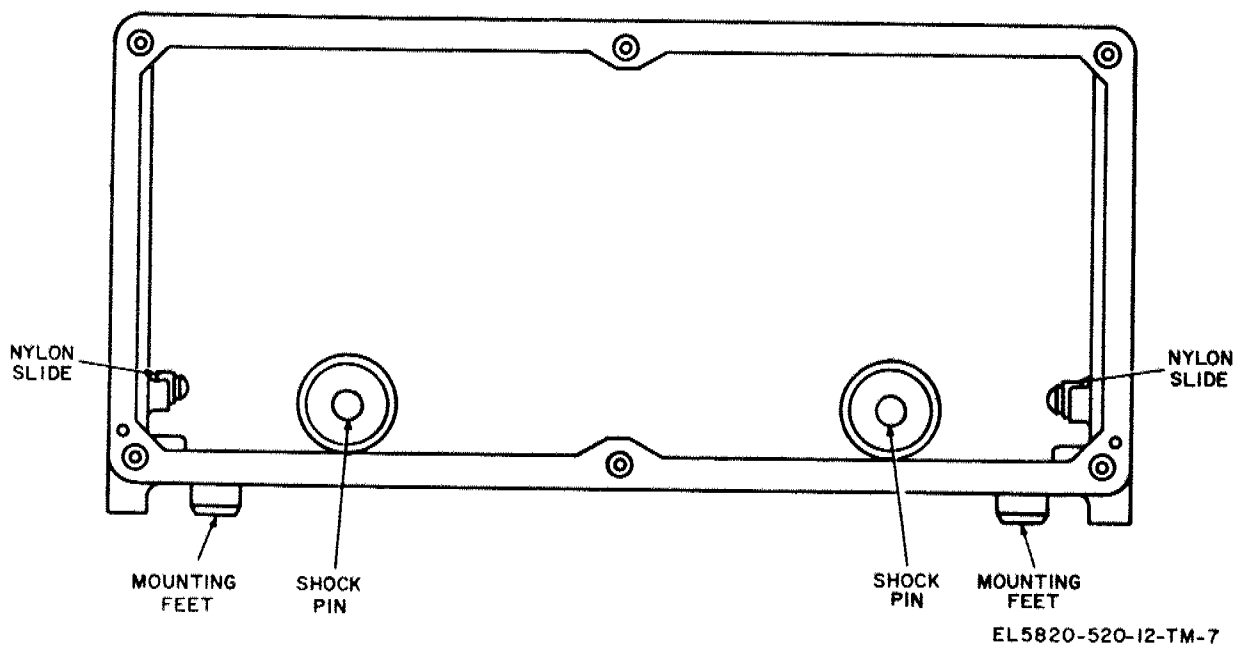

Figure 1-6. Receiver-Transmitter, Radio RT-662/GRC, case, front view.
b. Spring-loaded handles, one on each side of the case, are provided to facilitate hand-carrying. The top surface of the case is indented in four places to provide a secure seating for the matching feet of the AM-3349/GRC-106 when the RT-662/GRC and AM-3349/GRC-106 are stack-mounted. Nylon slides (fig. 1-6), one on each side, are secured to the inside of the case sidewalls, facilitating chassis withdrawal for inspection, adjustment, and maintenance. Stack-mounting supports are on the outside of the case sidewalls, providing the necessary rigidity for stack mounting. The stack-mounting supports are notched to provide an attachment point for the crossbar assemblies when the RT-662/GRC is installed in a tracked vehicle. Two chassis shock pins are mounted near the bottom of the inside rear wall of the case, to reduce damage to the